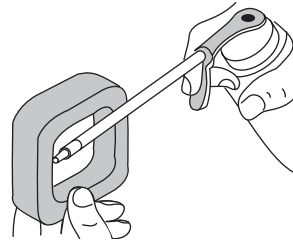

Fig. 30
4. Apply enough clean SAE 30 motor oil to lightly coat the filter (Fig. 30).